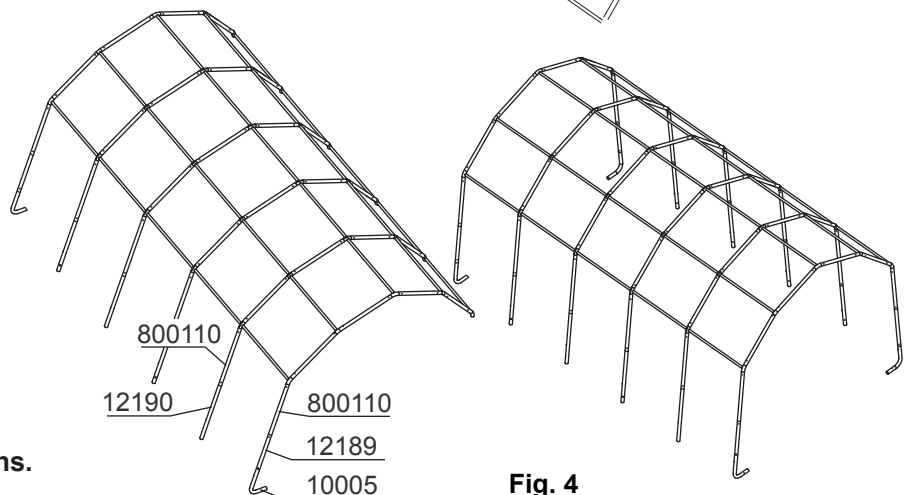

Fig. 4
STEP 4: INSTALL LEGS Fig. 4
With help lift one side of the rafter assembly and insert leg assemblies as shown in Fig. 4. When all of the legs are reinstalled on one side of the rafter assembly, repeat the same process on the other side.